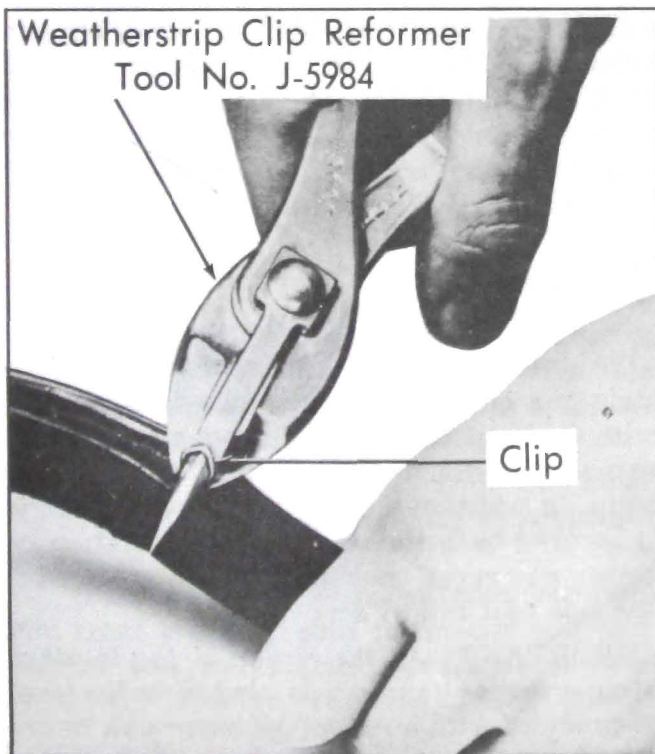

Figure 13-194—Reforming Weatherstrip Clip
Clip Reformer Tool No. J-5984 as shown in figure 13-194.
2. To install, first check clips for proper contour and reform if necessary using Tool No. J-5984 as indicated in figure 13-194, then position weatherstrip to hinge pillar and install clips into holes with mechanically-retained weatherstrip inserting tool. To install clips in holes, place "V"-shaped tip of tool on loop and push clip into hole. **CAUTION:** Do not use excessive force or strike tool when pushing clips into holes as it may distort shape of clips and cause improper weatherstrip retention.
1. Check weatherstrip clips for proper contour and reform if necessary using Tool No. J-5984 (see figure 13-194) in Door Weatherstrip section.